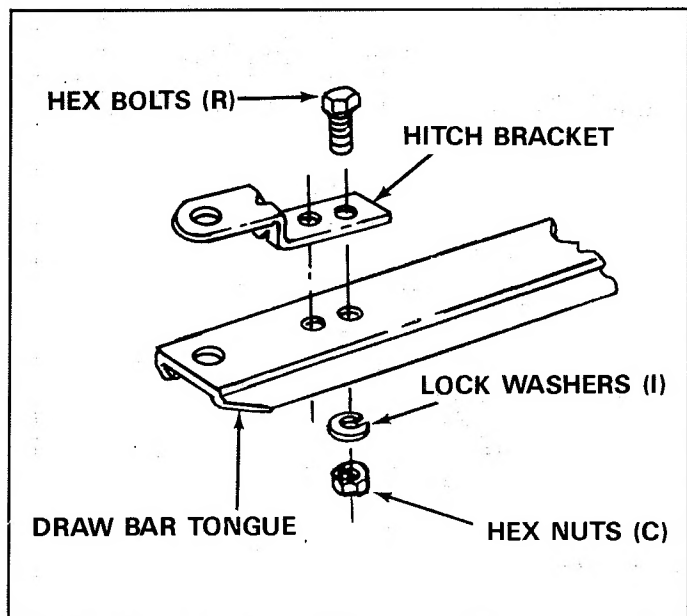

FIGURE 12
18. Assemble hitch bracket to drawbar tongue, using 3/8" x 1" long hex bolts (R), lock washers (I) and hex nuts (C). See figure 12.